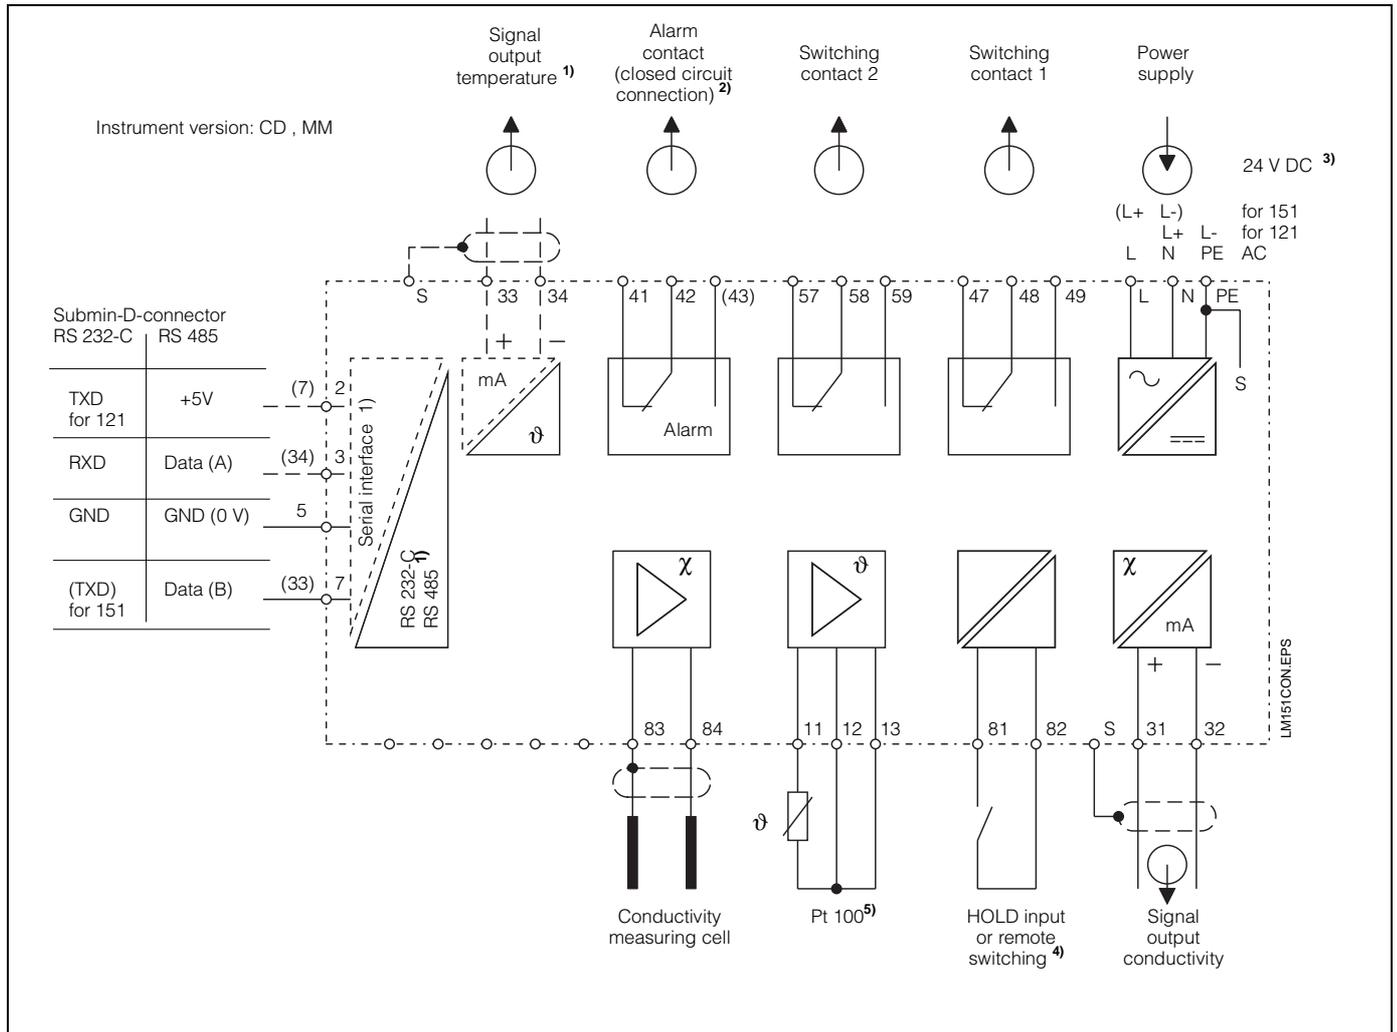

Fig. 4.3: Electrical connection Mycom CLM 121 / 151
- Connect the instrument according to the connection diagram (see fig. 4.3). Signal cables must be spatially separated from mains and power cables!